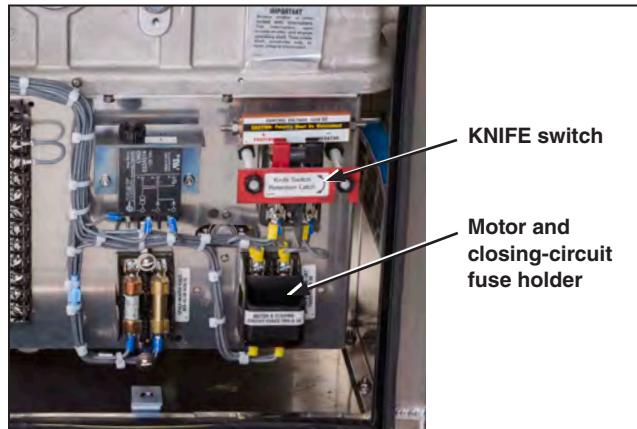

Figure 37. The motor and closing-circuit fuse holders and the control source KNIFE switch.
- Correct polarity has been observed on dc-control-voltage models (Figure 37 on page 30.)
STEP 8. Insert the motor and closing-circuit fuse holders. Then, close the control power KNIFE switch. Figure 37.